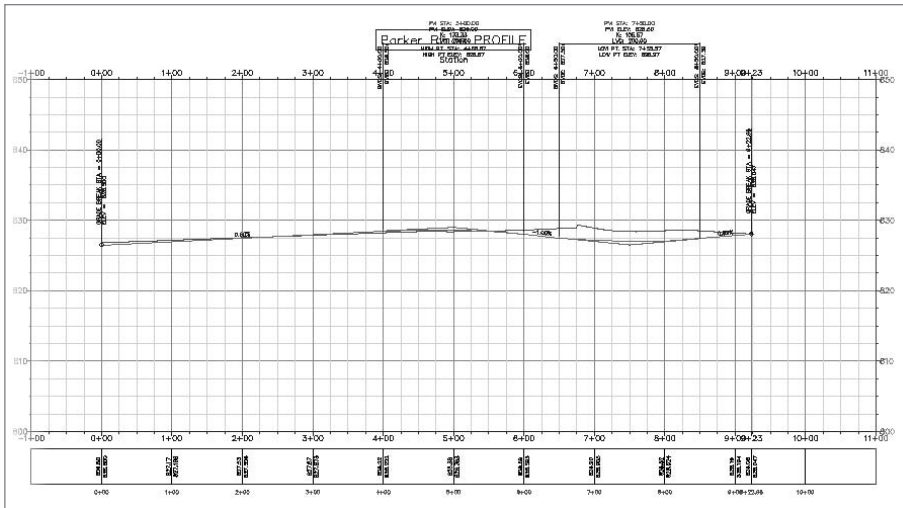

Figure 9.13
16. Use an end snap and select the end of the existing ground profile that's already in the profile view. Your screen should look like Figure 9.13.